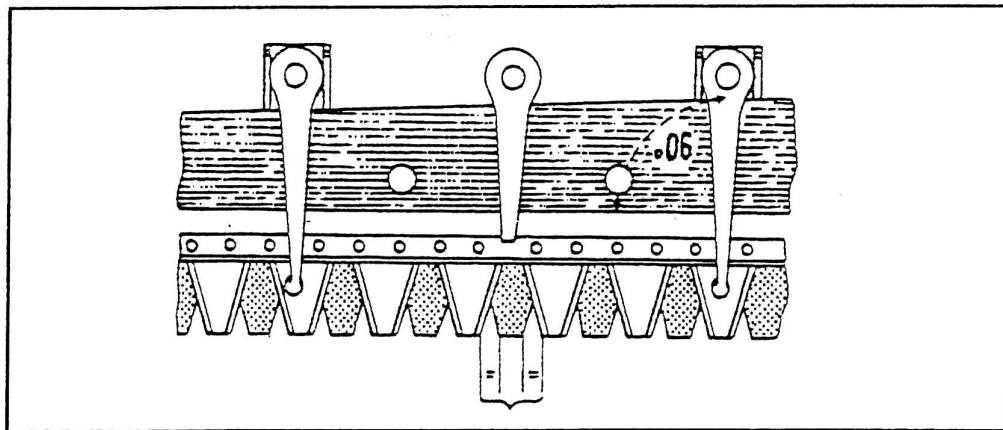

Figure 8
- The cutting blades will be brought to the middle position of Figure 8, so that the upper guide bar occupies a 90° angle to the upper edge of the bar.
- Unscrew the crown nut (item 4) on the top pin until the camshaft can be started manually or with the help of tools.
- After completing the clearance, the crown nut (item 4) is firmly tightened and secured by a gap from self-locking.